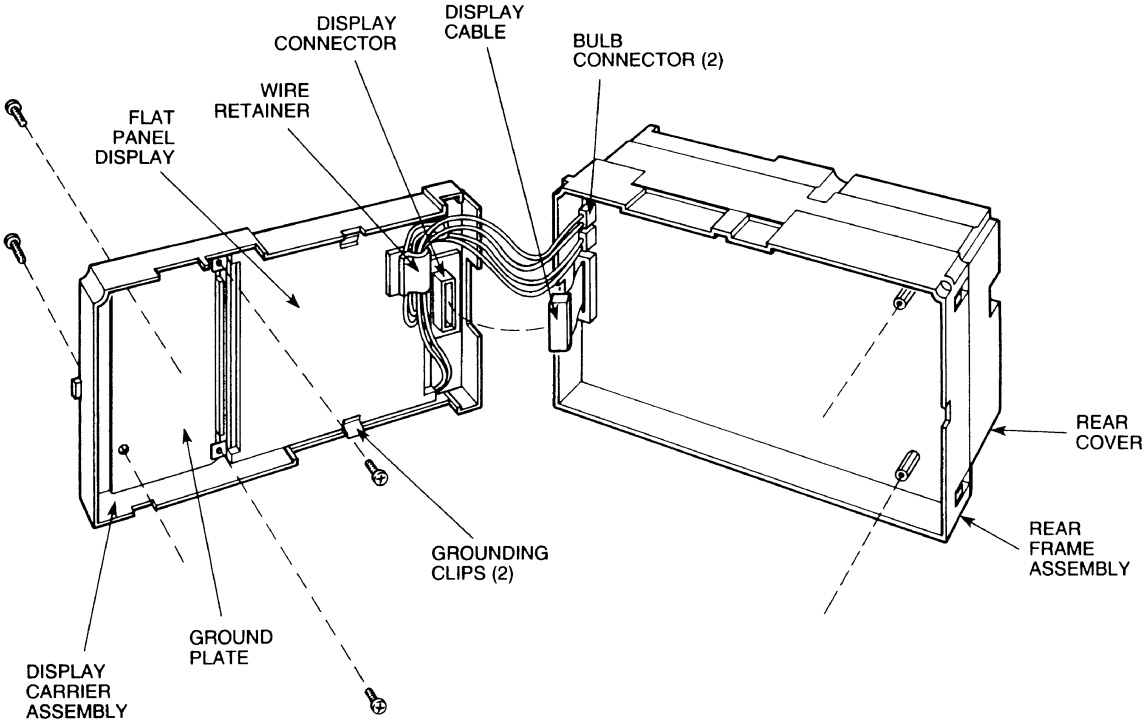

Figure 11. Access to Flat Panel Display and Color Bulb/Connectors
Refer to Figures 11 and 12 (located at the end of these steps). To replace the color bulb:
5. Set the unit down with the display facing up and remove the two screws holding the display carrier assembly to the rear frame (Figure 11).
6. Unsnap tabs on each end of the display carrier assembly, pull assembly straight out about an inch and then swivel aside (Figure 11).
7. Disconnect the display connector from the display carrier assembly and the bulb connectors (four white wires) from the rear frame (Figure 11).
8. Unscrew the two screws holding the flat panel display, this also unscrews the ground plate. (Figure 11).